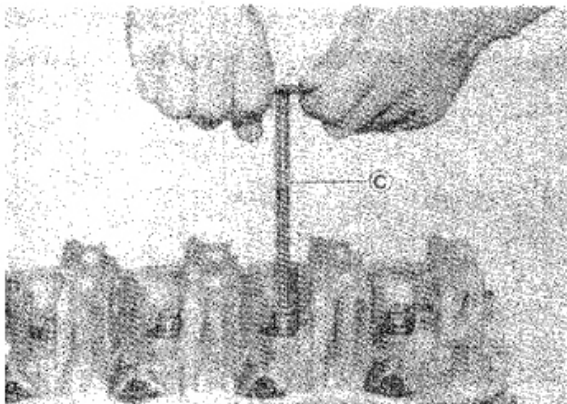

Fig. 3-62
- 3) Check all valve guides and, stems in place for I. D. and, if the clearance reading indicates too small, ream the guide I. D. with the reamer (C) as shown in Fig. 3-62.